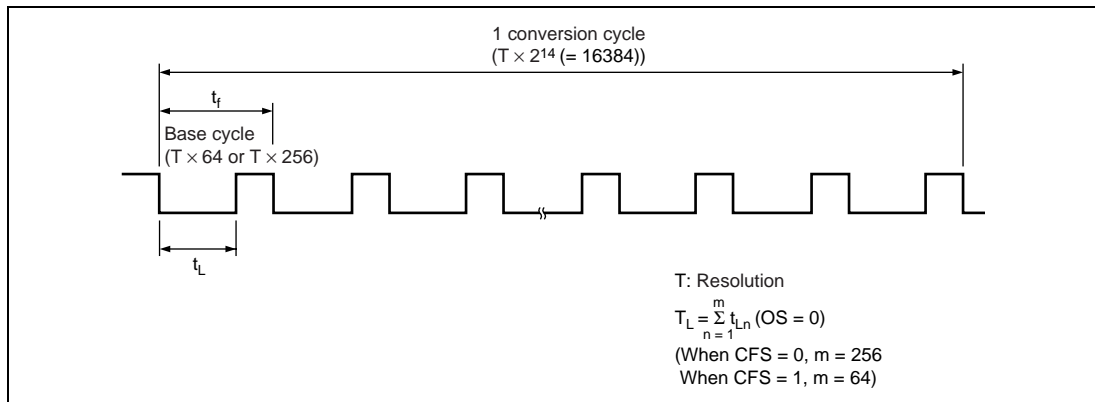
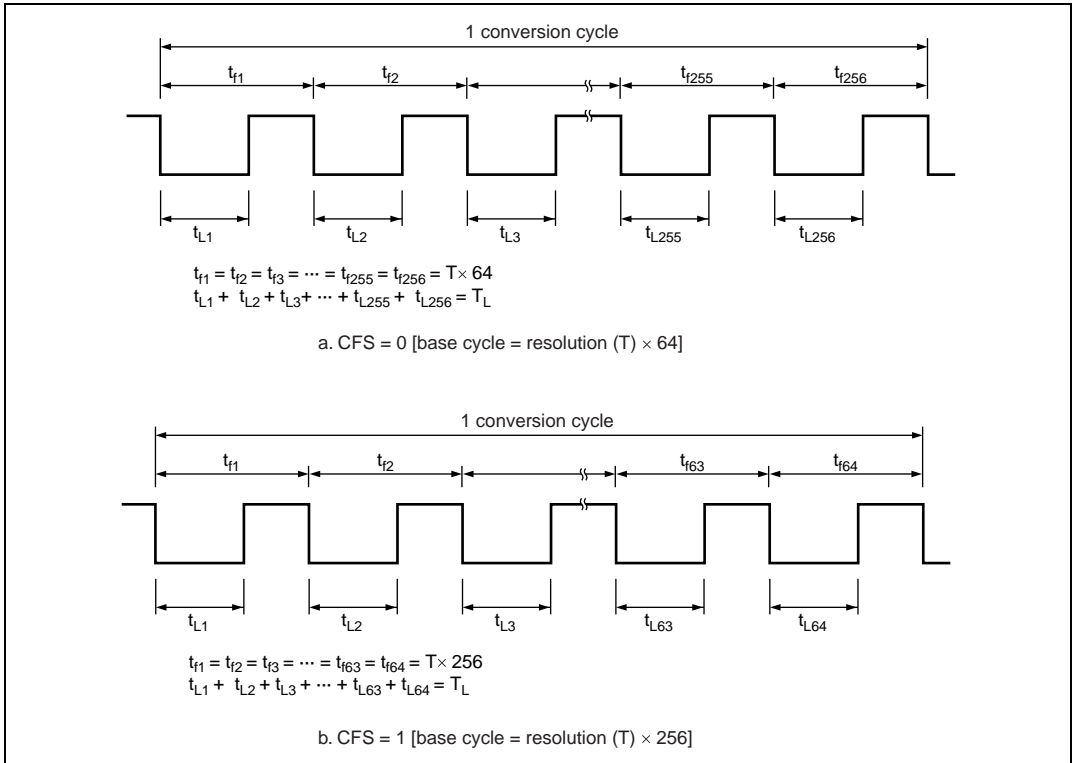

Figure 9.2 PWMX (D/A) Operation
Figure 9.3 Output Waveform (OS = 0, DADR Corresponds to T_L)
A PWM waveform like the one shown in figure 9.2 is output from the PWX pin. Data in DADR corresponds to the total width (T_L) of the low (0) pulses output in one conversion cycle (256 pulses when CFS = 0, 64 pulses when CFS = 1). When OS = 0, this waveform is directly output. When OS = 1, the output waveform is inverted, and data in DADR value corresponds to the total width (T_H) of the high (1) output pulses. Figures 9.3 and 9.4 show the types of output waveform.
Table 9.4 summarizes the relationships between the CKS and CFS bit settings and the resolution, base cycle, and conversion cycle. The PWM output remains fixed unless the contents of DADR are at least a certain minimum value. The relationship between the OS bit and the output waveform is shown in figures 9.3 and 9.4.